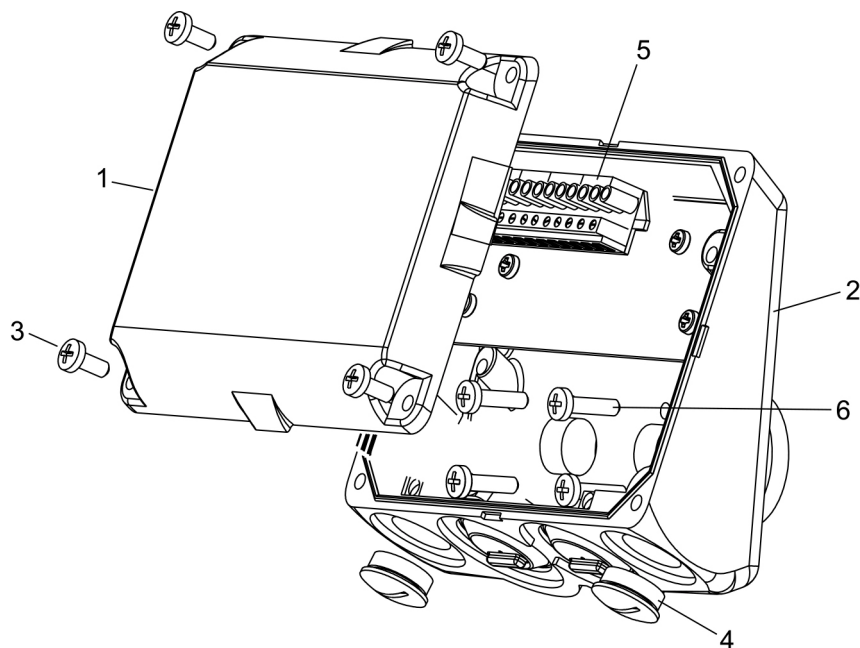
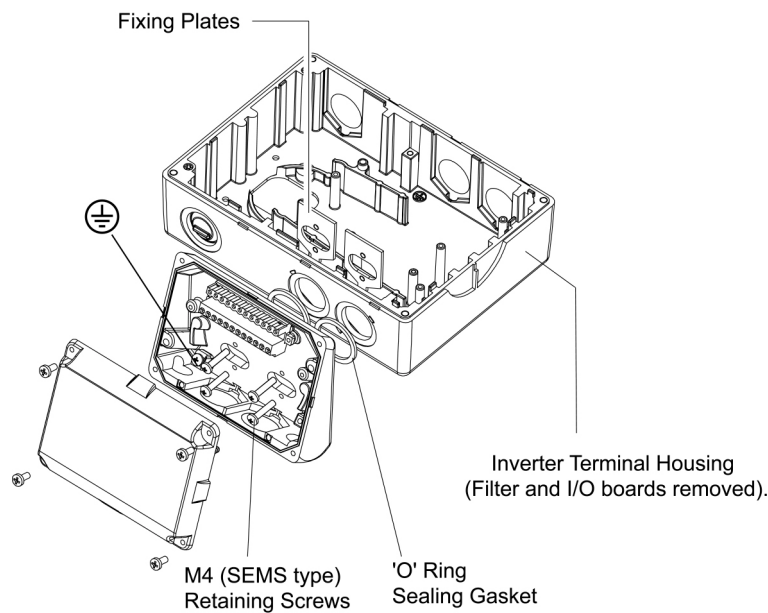

Figure 2-5 EM Brake Module Layout
Figure 2-6 EM Brake Module Fixing to Inverter
1. Unscrew the four cover retaining screws (3) (see Figure 2-5).
2. Carefully detach the module cover from the base (2).
3. Insert the O ring sealing gaskets (see Figure 2-6).
4. Align the Options case with the Fixing plates (See Figure 2-6).
5. Fasten the Options module base to the fixing plates using the retaining screws (see Figure 2-6).
8. Using the U-clamp and screw, connect the earth lead (attached to the fixing plate) to the earth stud (shown as ⊕ in Figure 2-6) within the module housing.
12. Align the corresponding sub-assemblies so that the opposing sections of the in-line pcb connector (5) mate (see Figure 2-5).
13. Apply a gentle pressure until the lid (1) is firmly closed.
14. Secure the lid via retaining screws (3) at each corner.